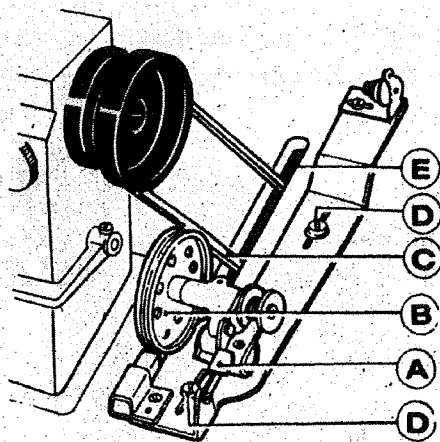

Fig. 6
7) Installing the bobbin winder (Fig. 6)